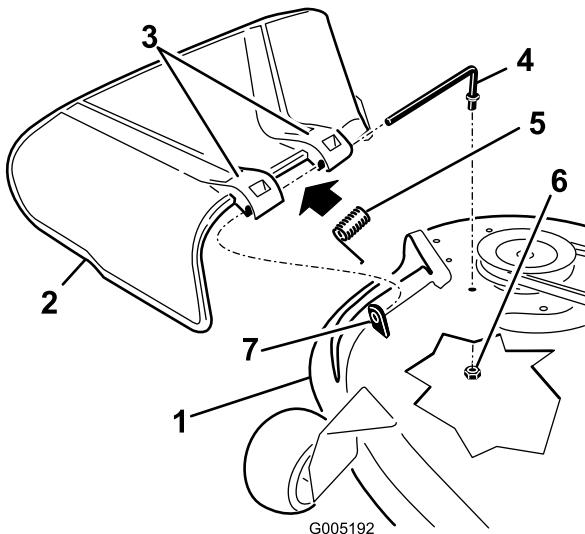

Figure 68
- Remove the nut (3/8 inch) from the rod under the mower (Figure 68).
- Slide the rod out of the short stand-off, spring, and grass deflector (Figure 68). Remove the damaged or worn grass deflector.
- Replace the grass deflector (Figure 68).
- Place the spring on the rod, with end wires down, and between the grass deflector brackets. Slide rod through second grass deflector bracket (Figure 68).
- Insert rod at front of grass deflector into short stand-off on deck. Secure rear end of rod into the mower with a nut (3/8 inch) (Figure 68).
- Locate items shown in Figure 68.